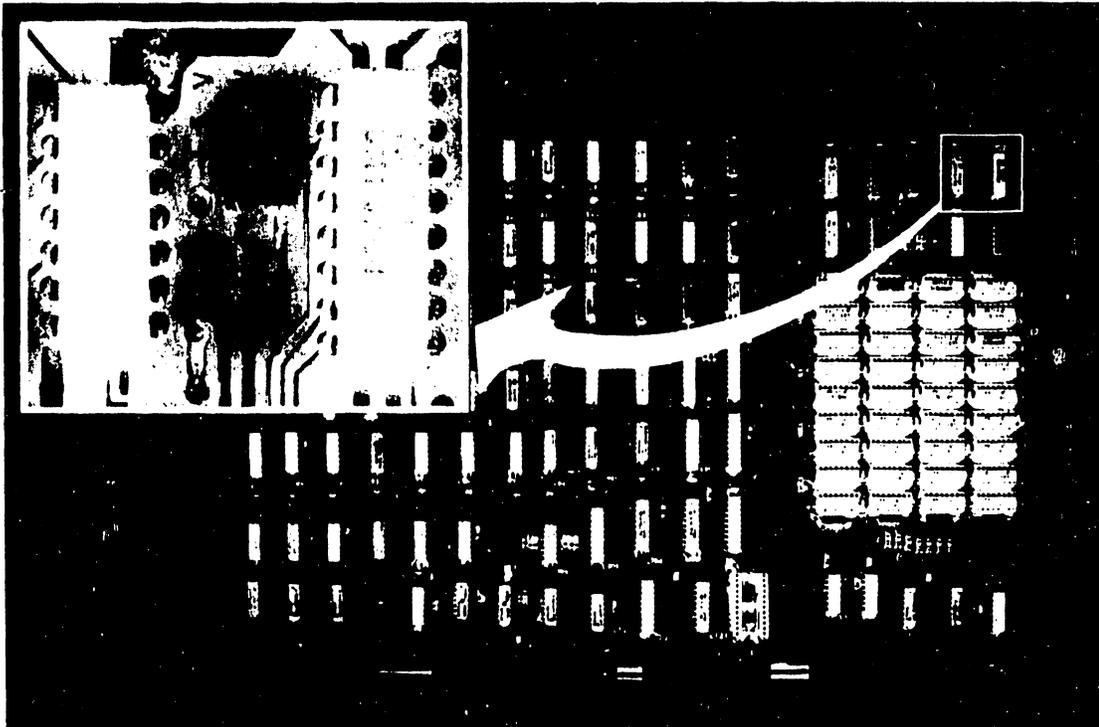
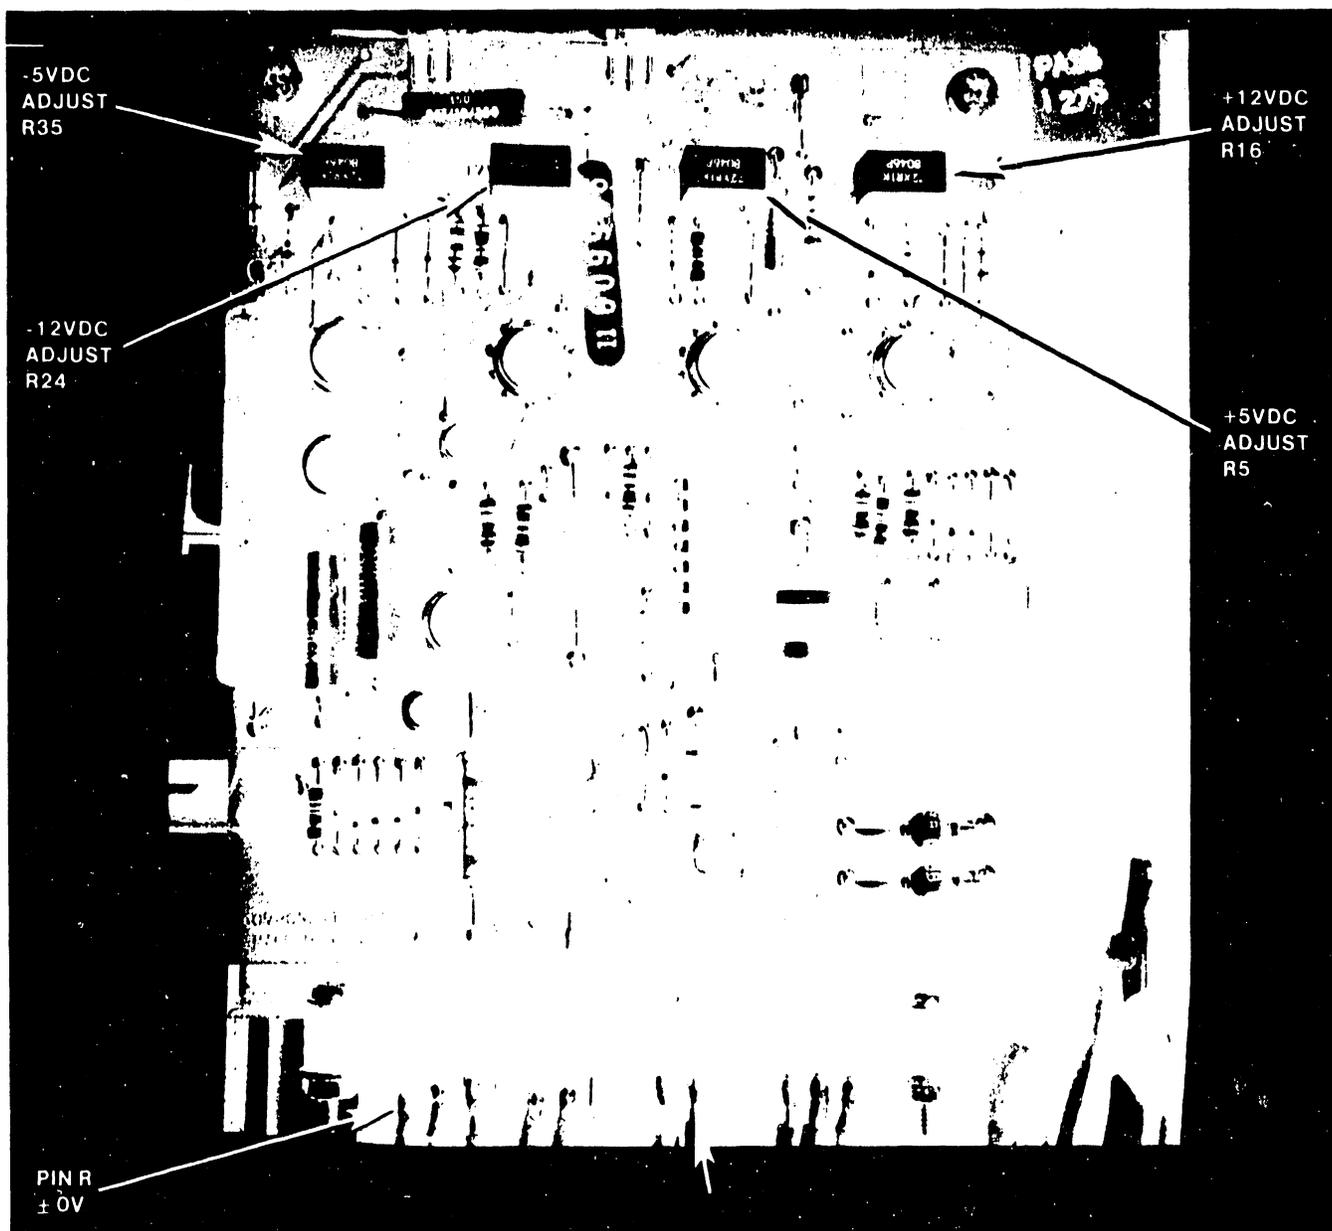
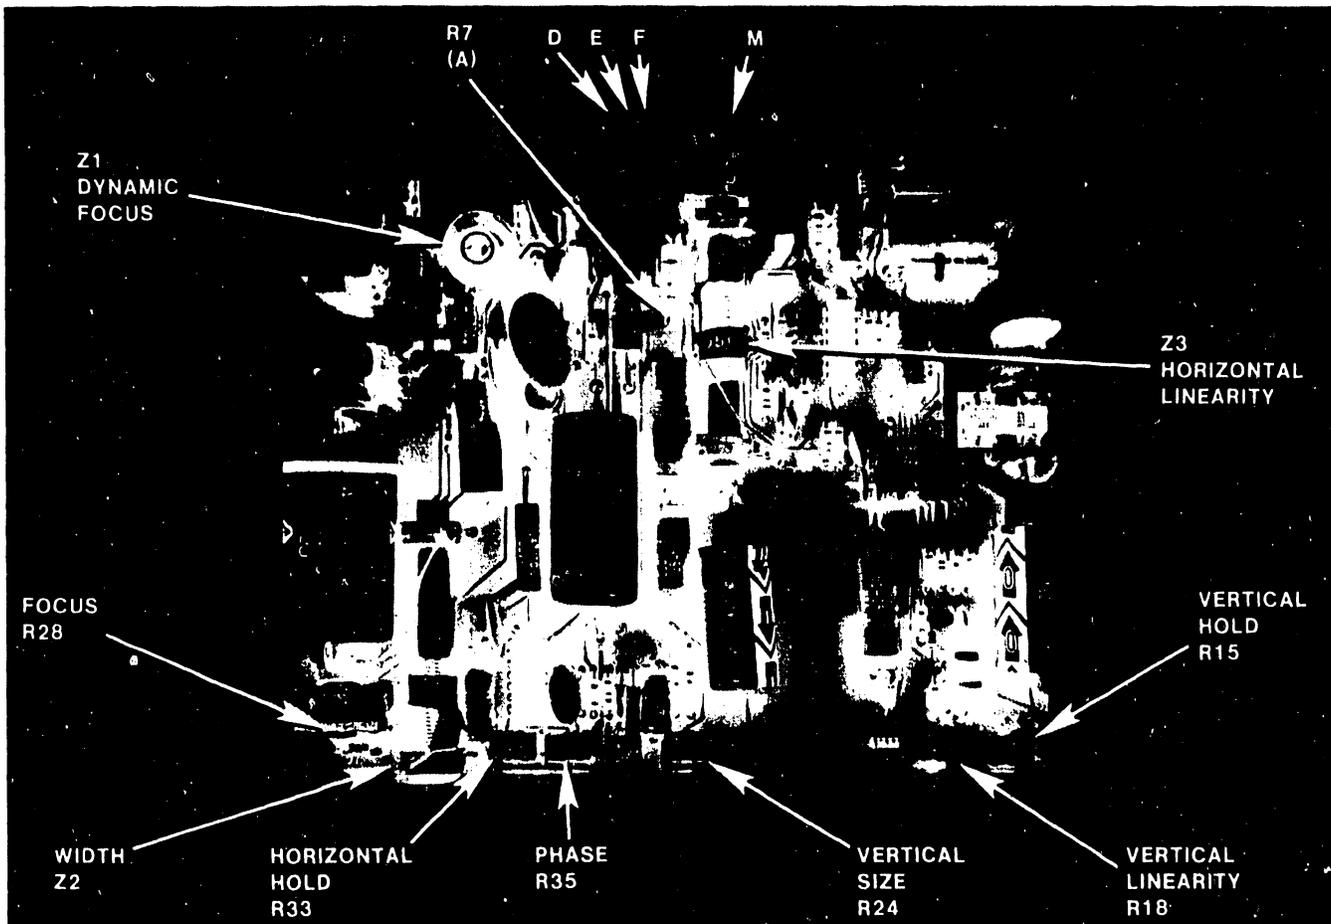

Figure 5-1. 210-7744 Voltage Test Points
Figure 5-2. 210-7656 Adjustment and Test Points
Figure 5-3. 210-7456 CRT Display Voltage Checks
Using a digital voltmeter, check the test points on PCA 210-7744 for +5 V, -5 V, and +12 V (figure 5-1), and on PCA 210-7656 or the cinch connector for -12 V (figure 5-2). Adjust the trim pots on regulator PCA 210-7656 (figure 5-2) if necessary. Use pin R for +0V reference. The power supply voltages should be within the ranges:
- o Adjust the +12 V regulated voltage to  $+12\text{ V} \pm 0.2\text{ V}$  on PCA 210-7656 (figure 5-2). Use a DVM to check test point A on PCA 210-7456 with pin D, E, or F on the board (figure 5-3) and L1-1 as  $\pm 0\text{V}$  ground references.
- o Using pin M as a test point (figure 5-3), adjust the Dynamic Focus Coil (Z1) to register an amplitude of 250V AC peak-to-peak on an oscilloscope.
- o Create a document to display a full screen (80x24) filled with alternating characters "HO" (figure 5-3).